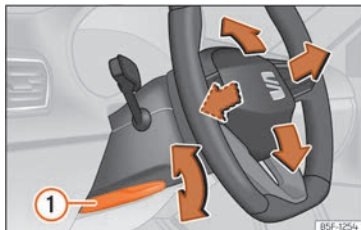

Fig. 5 Lever in the lower left side of the steering column.
- Pull the » Fig. 5 ① lever down, move the steering wheel to the desired position and lift the lever back up until it locks.
- After adjusting the steering column, push the lever » Fig. 5 ① firmly upwards to ensure the steering wheel does not accidentally change position while driving.